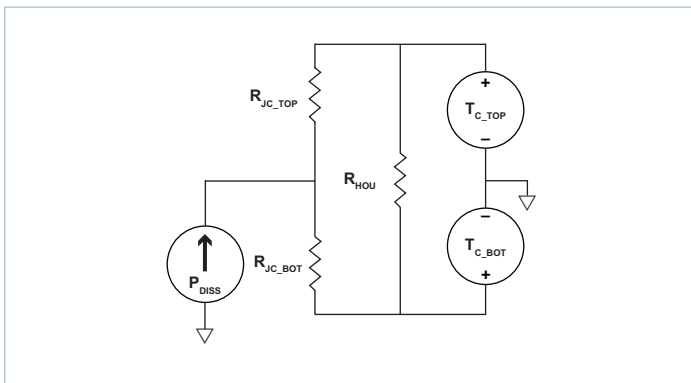
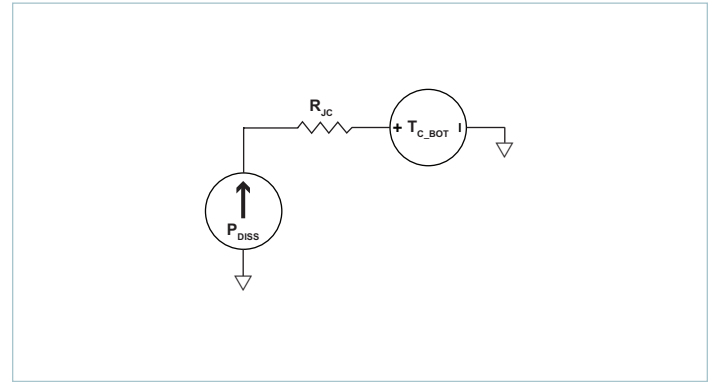

Figure 23 — Double sided cooling VIA thermal model
Figure 24 — Single-sided cooling VIA thermal model
The VIA package provides effective conduction cooling from either of the two module surfaces. Heat may be removed from the top surface, the bottom surface or both. The extent to which these two surfaces are cooled is a key component for determining the maximum power that can be processed by a VIA, as can be seen from specified thermal operating area on Page 5. Since the VIA has a maximum internal temperature rating, it is necessary to estimate this internal temperature based on a system-level thermal solution. To this purpose, it is helpful to simplify the thermal solution into a roughly equivalent circuit where power dissipation is modeled as a current source, isothermal surface temperatures are represented as voltage sources and the thermal resistances are represented as resistors. Figure 23 shows the "thermal circuit" for the VIA module.
- Single side cooling: the model of Figure 23 can be simplified by calculating the parallel resistor network and using one simple thermal resistance number and the internal power dissipation curves; an example for bottom side cooling only is shown in Figure 24.